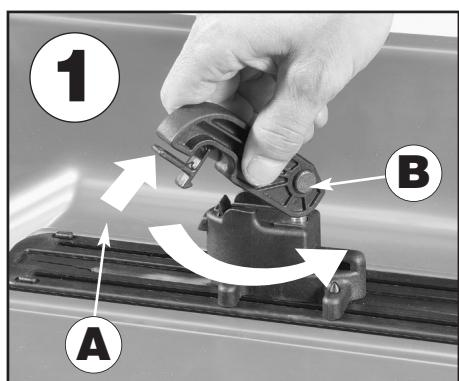

fig. 1)
- Unblock the safety lock (fig. 1/A) and upright the handle (fig. 1/B).